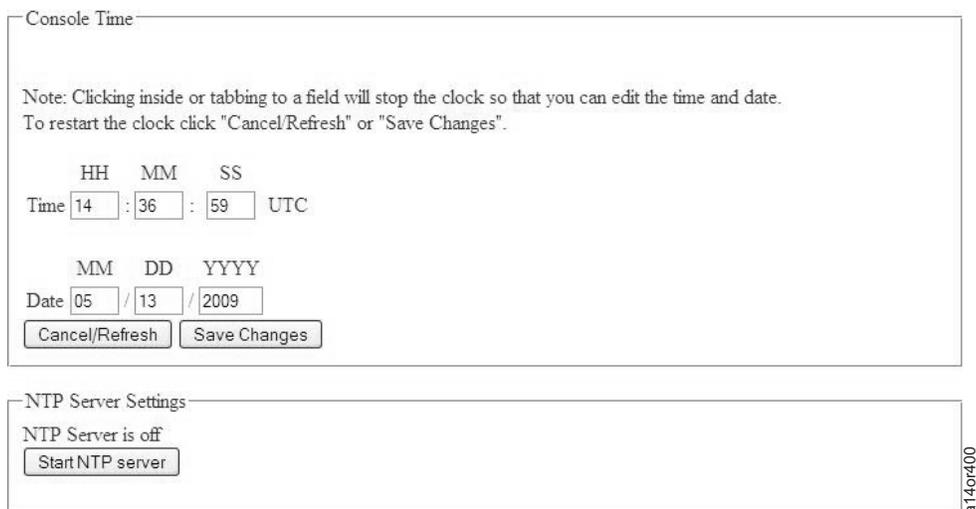

Figure 131. Start NTP Server Screen
8. See Figure 131 on page 105. To start the NTP server, click the Start the NTP server button.